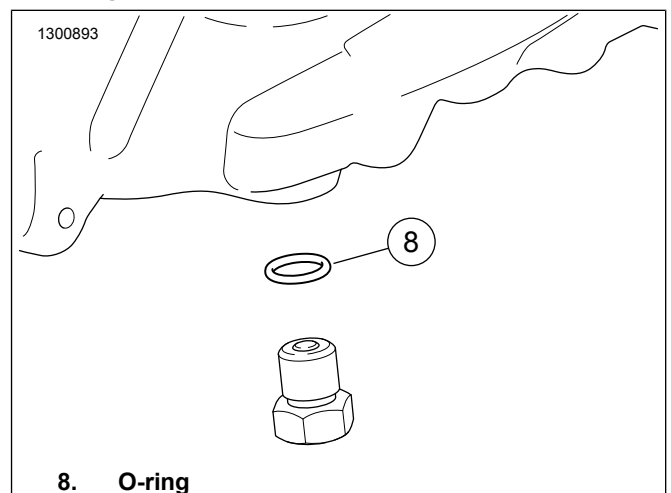

Figure 6. Primary Plug O-Ring
- a. See Figure 6. Install **new** O-ring (8) to plug.